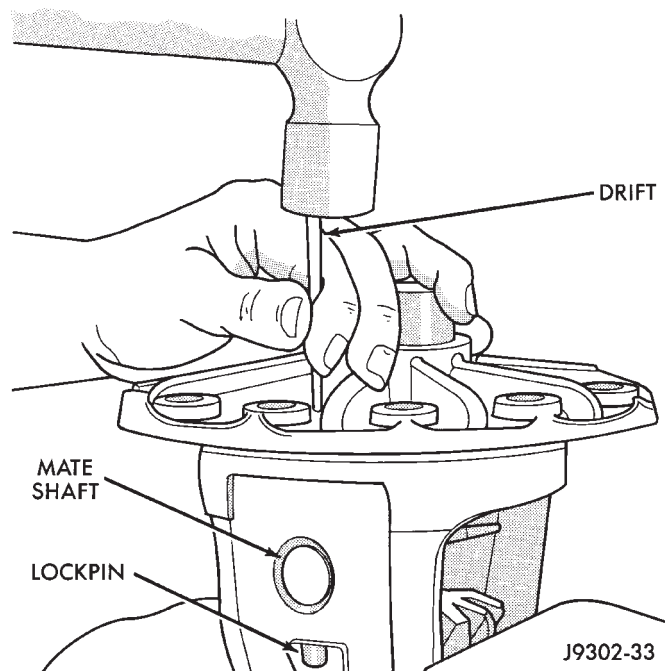

Fig. 30 Mate Shaft Lock Pin Removal
(4) Use a drift to remove the pinion gear mate shaft lock pin (Fig. 30).